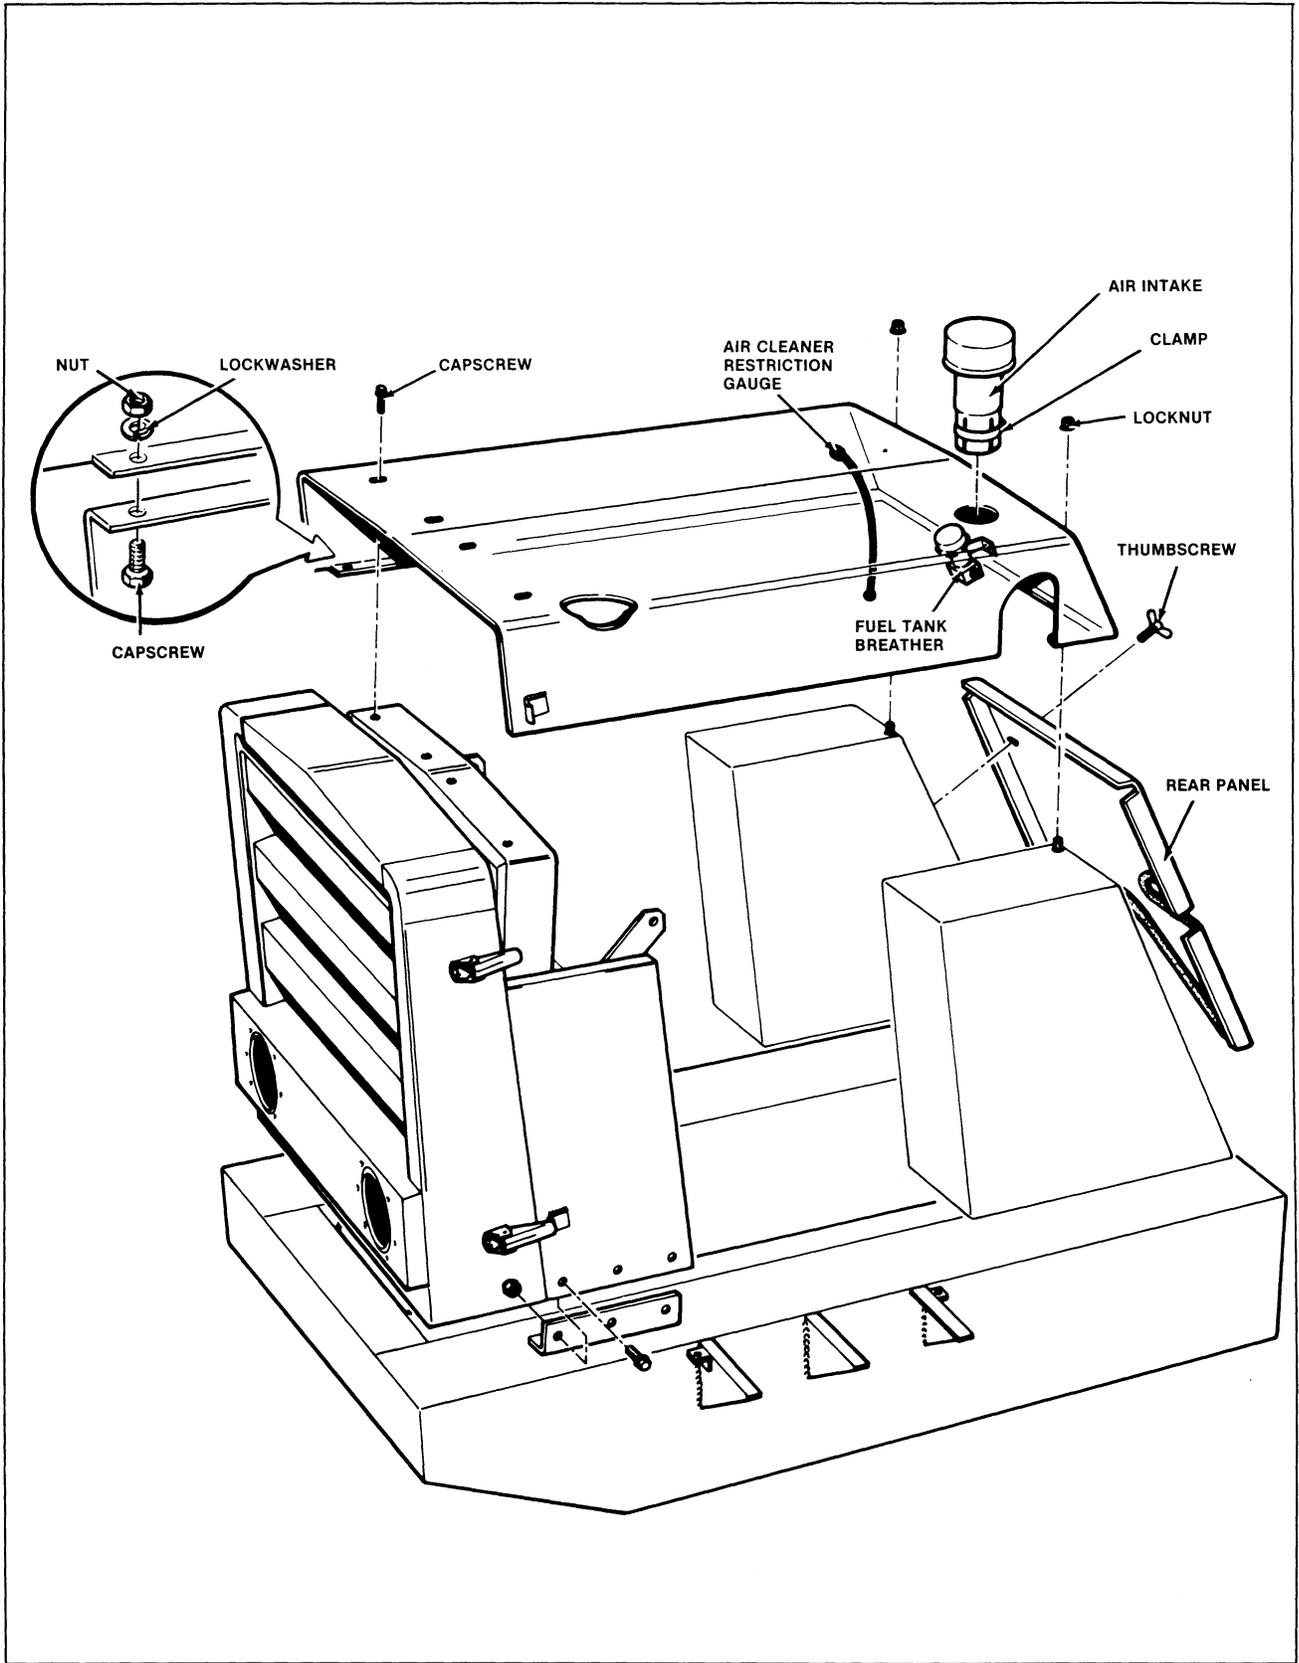

FIGURE 2-1: Hood Removal
1. Remove four thumbscrews securing rear panel to tractor frame (Figure 2-1). Remove rear panel.